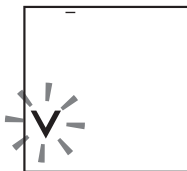

Fig.12
2. Press the START/STOP button. The deflating symbol «V» will flash on the display, and the device will release the remaining air from the cuff (Fig. 12).